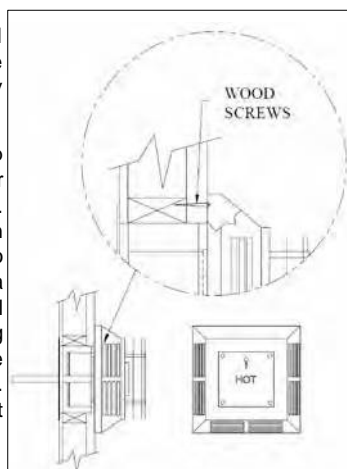

Figure 36: Fastening Horizontal Termination Cap in Place.
- (1) Any horizontal run of vent must have a ¼ inch (6mm) rise for every 1 foot (305mm) of run towards the termination. Never allow the vent to run downward. This could cause high temperatures and may present the possibility of a fire.
- (2) The location of the horizontal vent termination on an exterior wall must meet all local and national building codes, and must not be easily blocked or obstructed. Termination clearances must comply with the Vent Termination Restrictions section.
Step 4. For a Square Horizontal Vent Termination, place the vent cap in the center of the square hole and attach to the exterior wall with the four wood screws provided (refer to Figure 36). Before attaching the Vent Termination to the exterior wall, run a bead of non-hardening sealant around its outside edges, so as to make a seal between it and the wall. If you are using a Round Horizontal Vent Termination, place an exterior Wall Firestop over the square hole. Run a bead of non-hardening sealant around the edges of the Wall Firestop, and attach the Wall Firestop to the wall with the four wood screws provided. The arrow on the vent cap should be pointing up. Ensure that proper clearances to combustible materials are maintained.